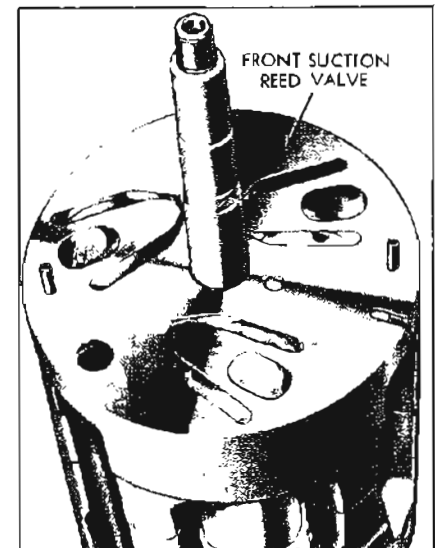

Figure 11-99—Front Suction Valve Reed Disc Installed
43. Assemble suction reed valve disc to front of cylinder assembly and align with dowel pins, suction port and discharge port (see Figure 11-99).